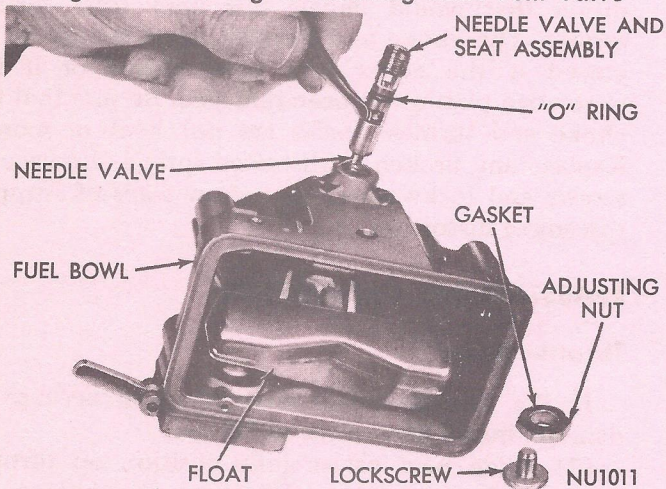

Fig. 12—Removing or Installing Fuel Inlet Needle and Seat
(2) Remove fuel level adjusting nut lock screw, then remove adjusting nut. Slide needle valve and seat out of fuel bowl (Fig. 12). Discard needle seat "O" ring.